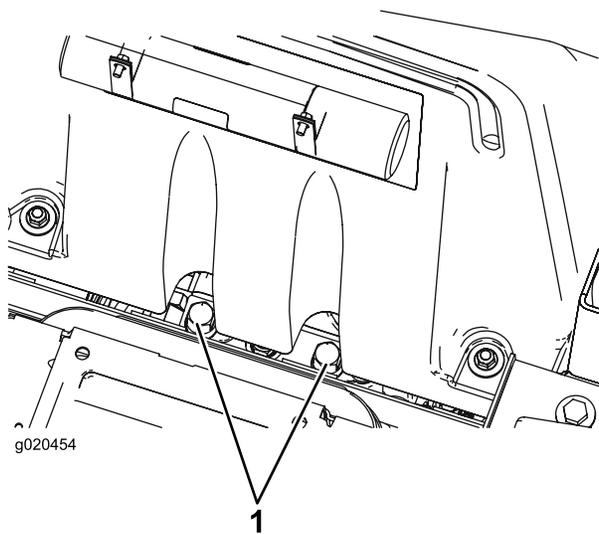

Figure 60
1. Raise the seat and locate the bypass valves, which are located below the front of the fuel tank (Figure 60).